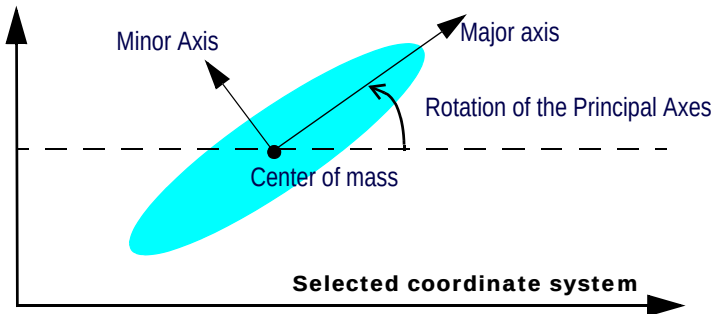

Figure 308 Rotation of the Principal Axes
moment of inertia is smallest. Conversely, the minor axis (Y) is the axis about which the moment of inertia of the blob is the greatest. See Figure 308.
The rotation of the Principal Axes reference system is the counterclockwise angle between the X-axis of a selected coordinate system and the major axis. See Figure 308.